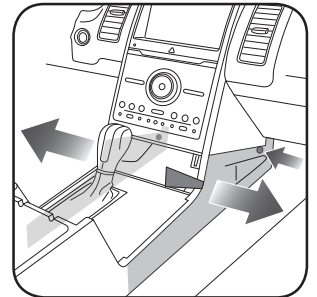

Fig. 1.4
3. Remove the panels on each side of the center console, exposing (1) 7mm screw on each side. Remove the two (2) screws. (Fig. 1.4)